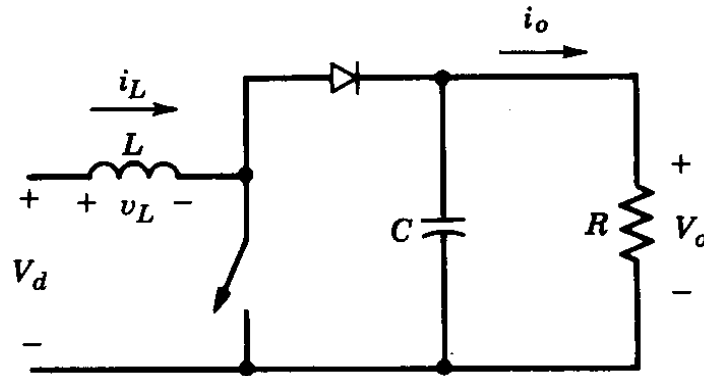

Figure 2 Boost converter
2. Figure 2 shows a boost converter used in the Toyota Prius hybrid electric vehicle for stepping up the battery voltage from 150-250 V to 500 V. The converter's switching frequency is  $f_s = 20\text{kHz}$ .